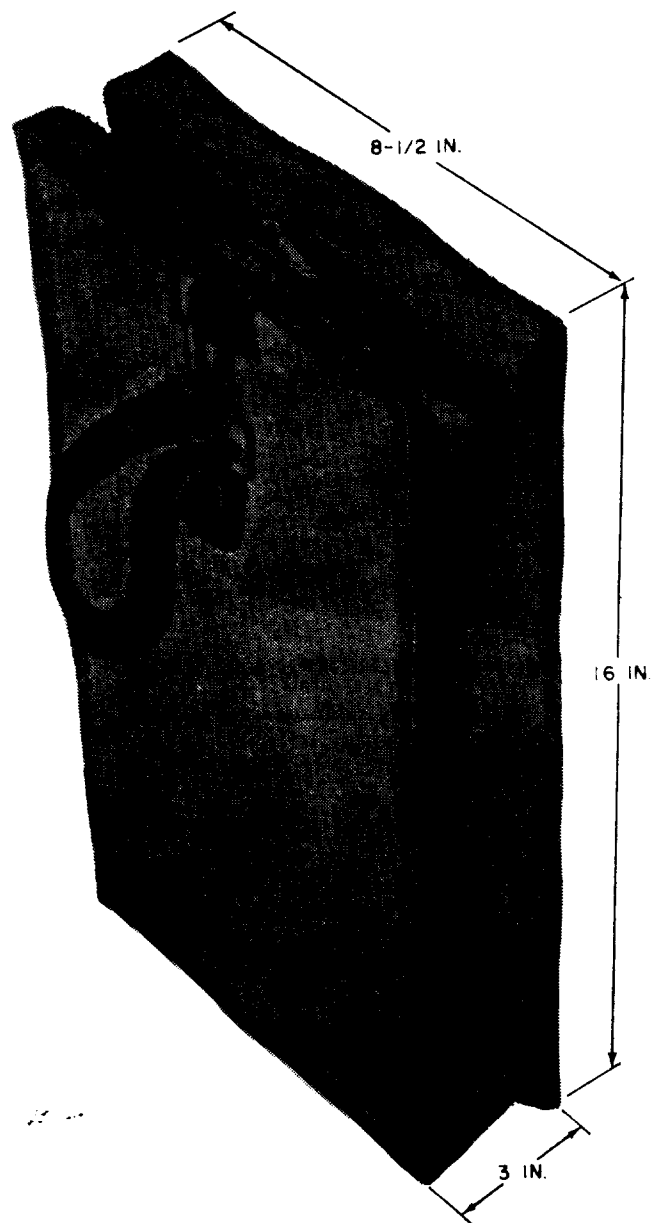

Figure 4 - B Glove Bag
6.01 The B glove bag (Fig. 4) is provided for carrying and storing insulating gloves and associated leather protector and fabric liner gloves.